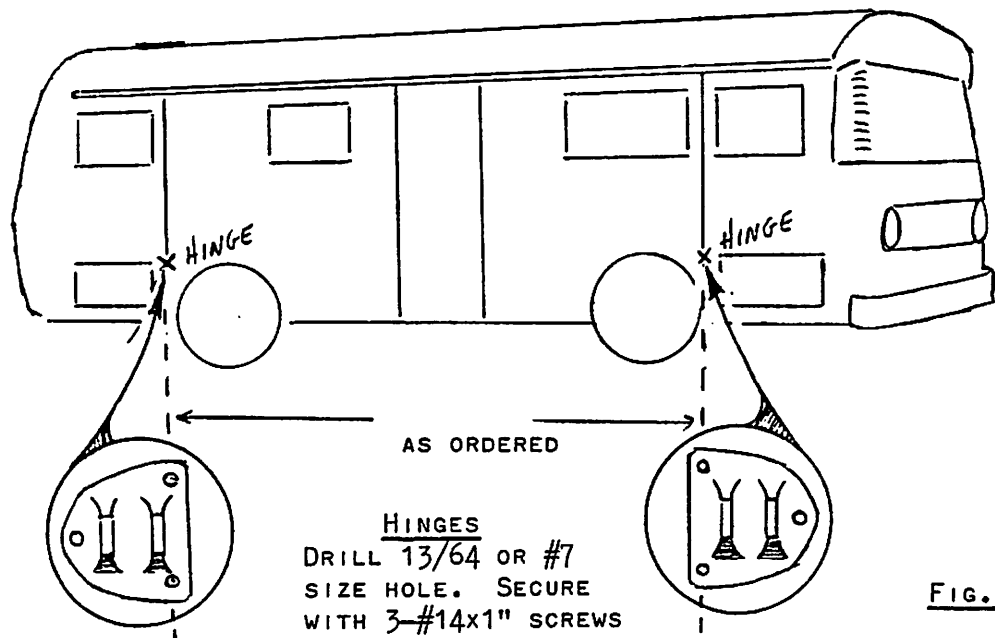

FIG. 3
- A. Mount main arm hinges at the center line determined in step 3A (Fig. 3) Space hinges so that the distance between the centers of the hinges is equal to the size awning ordered.